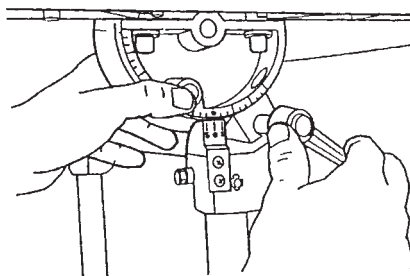

Figure C-33
27. Loosen the tilt lock, move the worktable, then depress the 0° stop pin until the stop bolt contacts it. Tighten the tilt lock, and recheck the setting by repeating Steps 24 through 26. See Figure C-33. (It is very important to recheck the setting!)